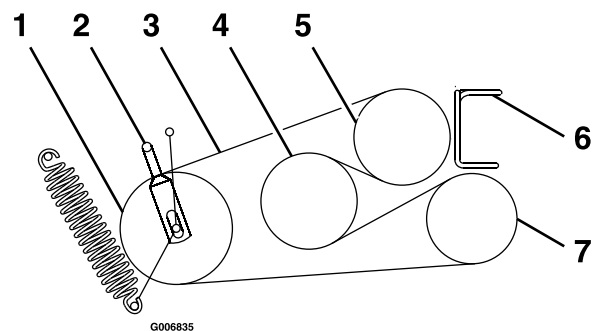

Figure 9
5. Loosen belt guides “A” and “B” (See Figure 9).
7. Route new belts onto sheaves as shown in the decal located on the back of the left drive shield (see Figure 9).